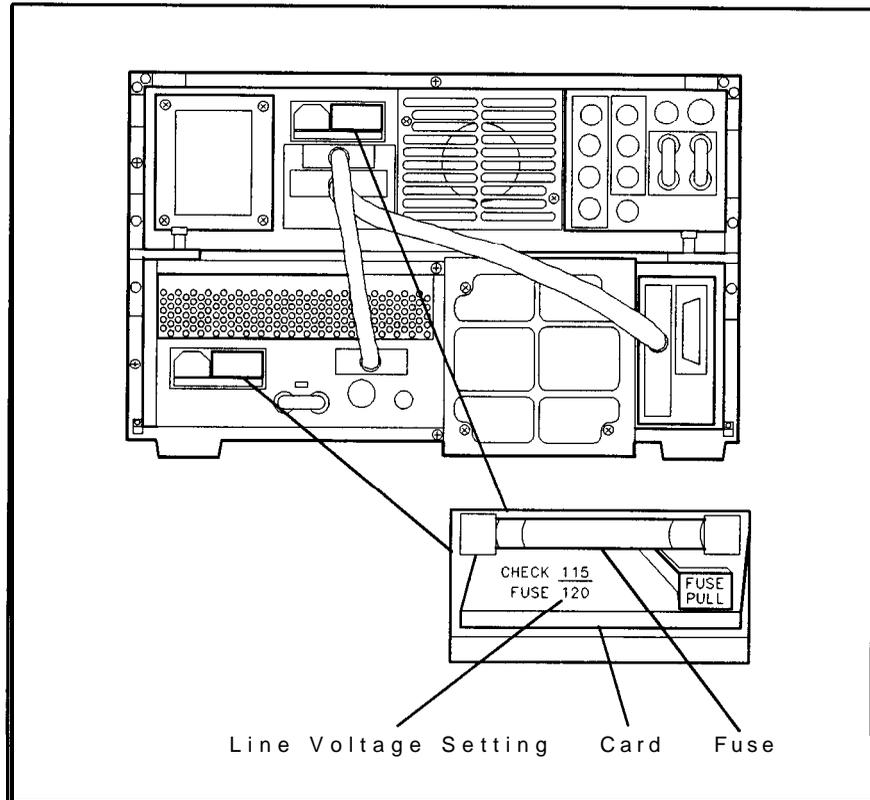

Figure 2-12. Voltage Selector Board and Fuse
13. On each instrument section, slide open the power module's fuse door (located on the rear panel). See Figure 2-12. Push the fuse-pull lever to the left. Remove the fuse.